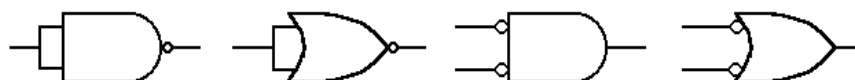

Figure 12 – Functions to be implemented.
(***) **Question 7.2.1 [4 Marks]** – Implement the circuits in **Figure 12** and complete their truth tables. Compare the results with functions in **Experiment 1**; what conclusions can you derive?
a) What logic function do the first two circuits (of **Figure 12**) represent?
b) The 3rd and 4th circuits in **Figure 12** should have identical Truth Tables to two of the functions tested in **Experiment 1**. If so, write down the Boolean equation for each identical pair (for example, the 4th function in **Figure 12** is written $x' + y'$). What important Theorem do the two equations illustrate?